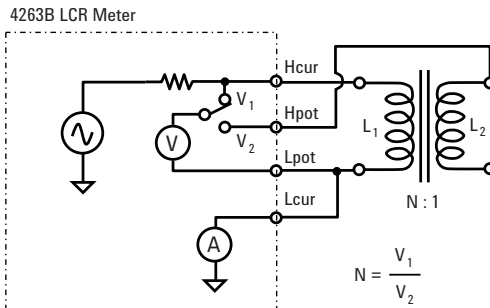
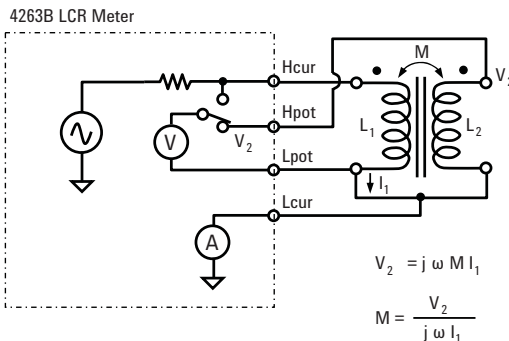

Figure 2. Turns ratio (N) measurement
Figure 3. Mutual inductance (M) measurement
The Agilent 4263B with option 001 also adds turns ratio and mutual inductance measurement capabilities. A turns ratio (N) measurement value of 0.9000 to 200.00 can be obtained from a voltage ratio measurement for the primary and secondary. In the N measurement mode, an internal voltmeter and a selector switch (a unique function of the 4263B) are configured as shown in Figure 2. Mutual inductance (M) of 1 μH to 100 H can be measured by connecting a transformer as shown in Figure 3. Mutual inductance value is obtained from the ratio measurement of the primary current and secondary voltage according to the equation ( $V_2 = j\omega MI_1$ ) shown in the figure. The direction (in-phase or an opposing phase connection) of windings can also be known from the plus/minus sign of mutual inductance measurement value. The combination of M and N measurements is suitable for the transformer parameter test based on general pulse transformer specifications.